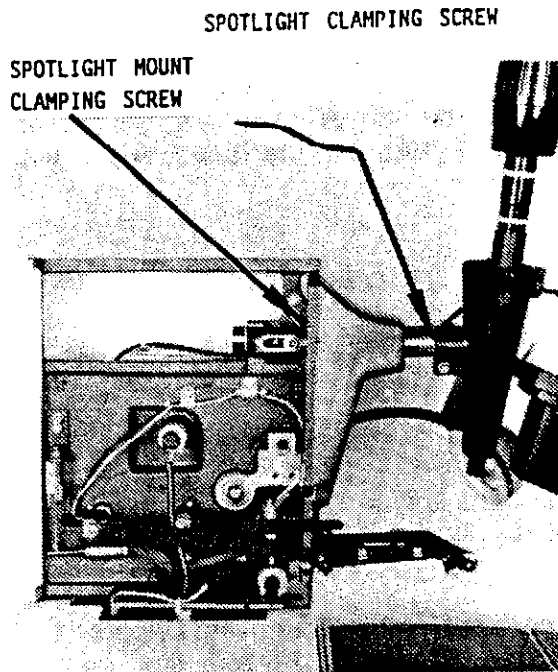

Figure 1-7 Spotlight Mount Rod and Screw
- Step 1 Using an Allen wrench, loosen the spotlight mount clamping screw (see Figure 1-7). Remove mount from main head.